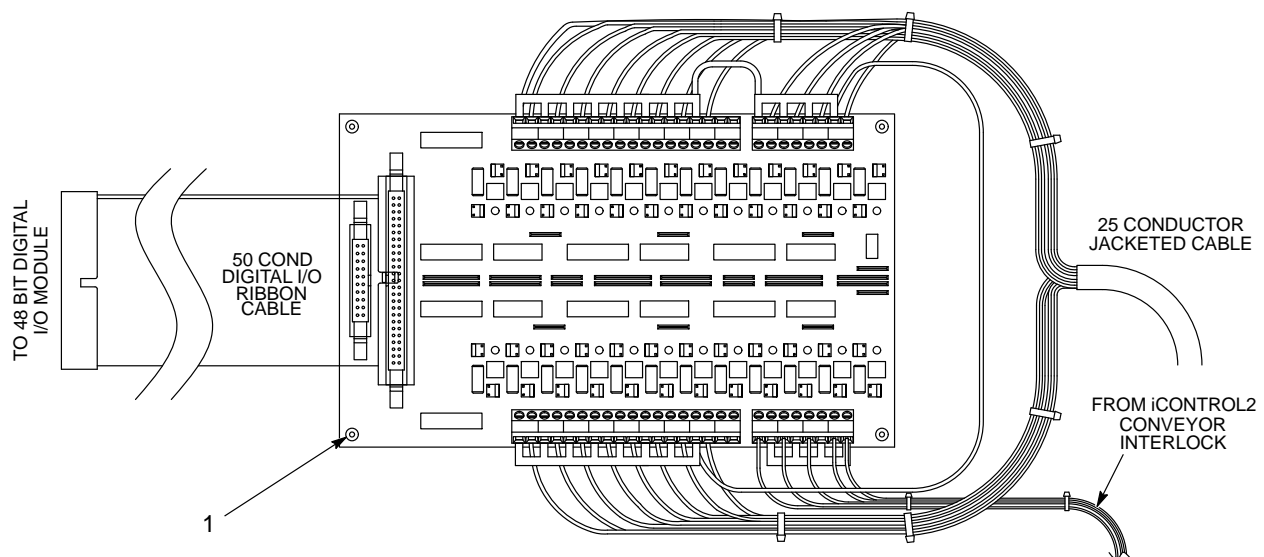

Figure 1 Old Interface Card with Wiring and Ribbon Cable Connections
1. See Figure 1. Disconnect the 25 conductor cable wiring at interface card. Also disconnect the “conveyor interlock” wiring from input 16 thru 19 of the interface card.
3. Remove the four screws (1) securing the interface card. Save the screws to install the new interface card.